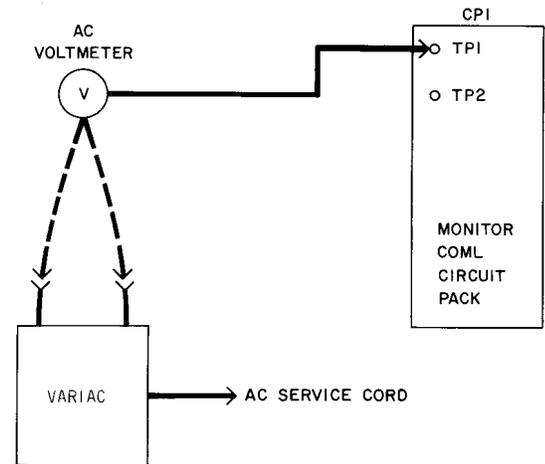

Fig. 1—Polarizing Variac to Commercial Supply
- (8) Disconnect the AC voltmeter from TP1 and TP2 test jacks of the MONITOR INVR circuit pack.
- (9) Polarize the W5MT3 variac output to match the commercial line voltage as follows (refer to Fig. 1):